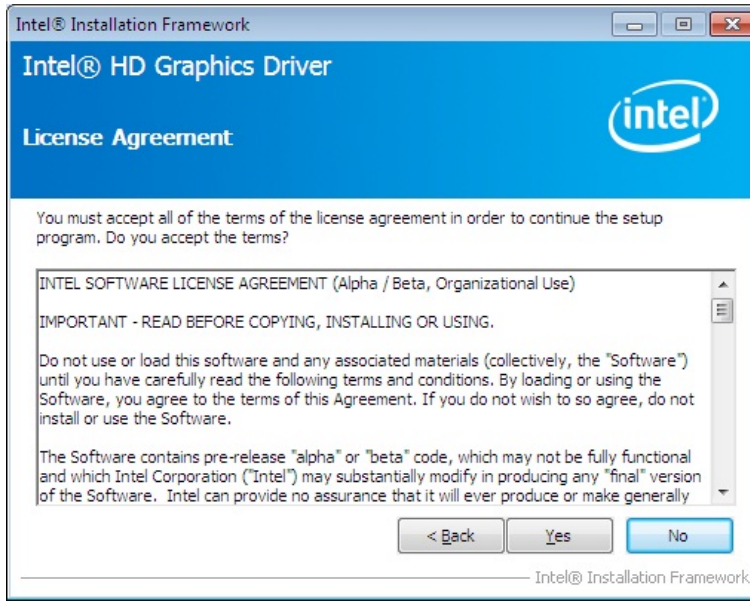

Figure 6-7: Graphics Driver License Agreement
Step 6: The **License Agreement** in **Figure 6-7** appears.